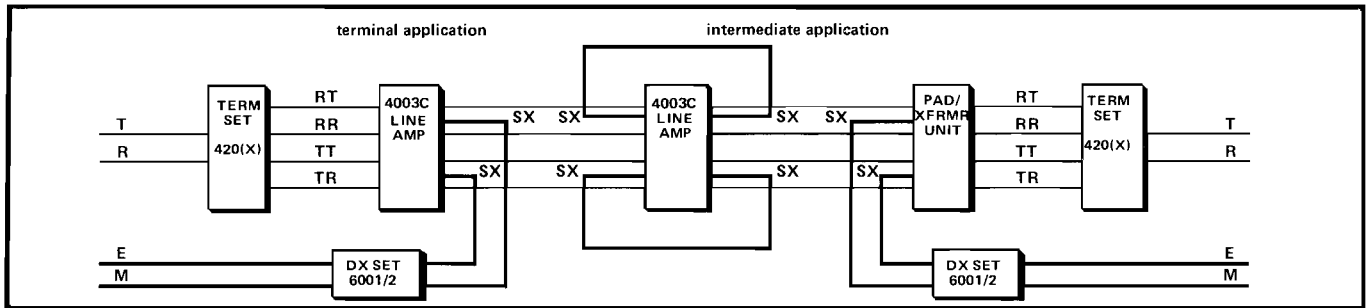

figure 3. 4wire circuit employing DX signaling.
2.06 All four impedance-matching transformers on the 4003C are center-tapped to derive simplex leads, allowing this module to be applied to circuits employing DX, loopback, or other dc signaling schemes (figure 3).
Note: In intermediate applications where simplex (SX) signaling is used (see center 4003C in figure 3), strap the simplex leads as follows: RCV SIMPLEX IN (pin 9) to RCV SIMPLEX OUT (pin 3) and XMT SIMPLEX IN (pin 51) to XMT SIMPLEX OUT (pin 43).